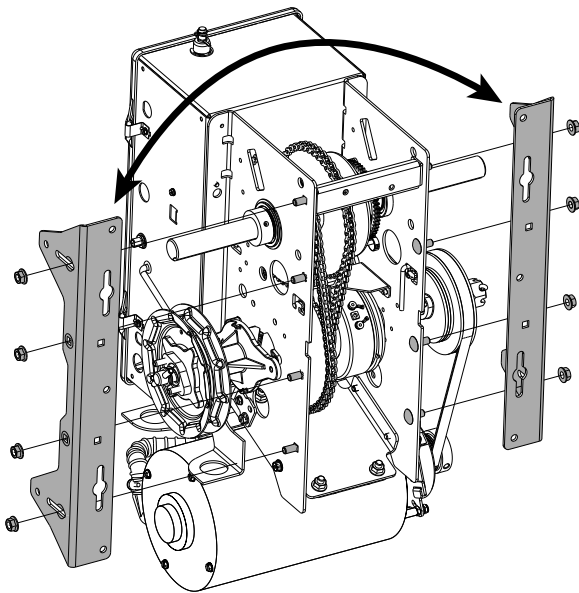

Fig. 14
- 2) Remove 8 nuts (4 each side) and exchange sides of the mounting brackets and reinstall with mounting pads inboard. Fig. 14